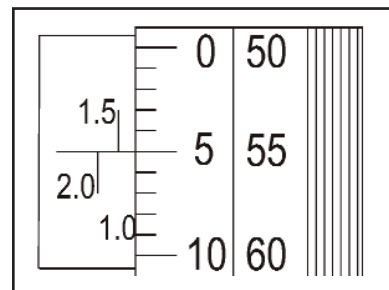

Figure 4
In Figure 4, the depth has been set at 1.05mm. In this case, you would reference the first set of numbers (5).